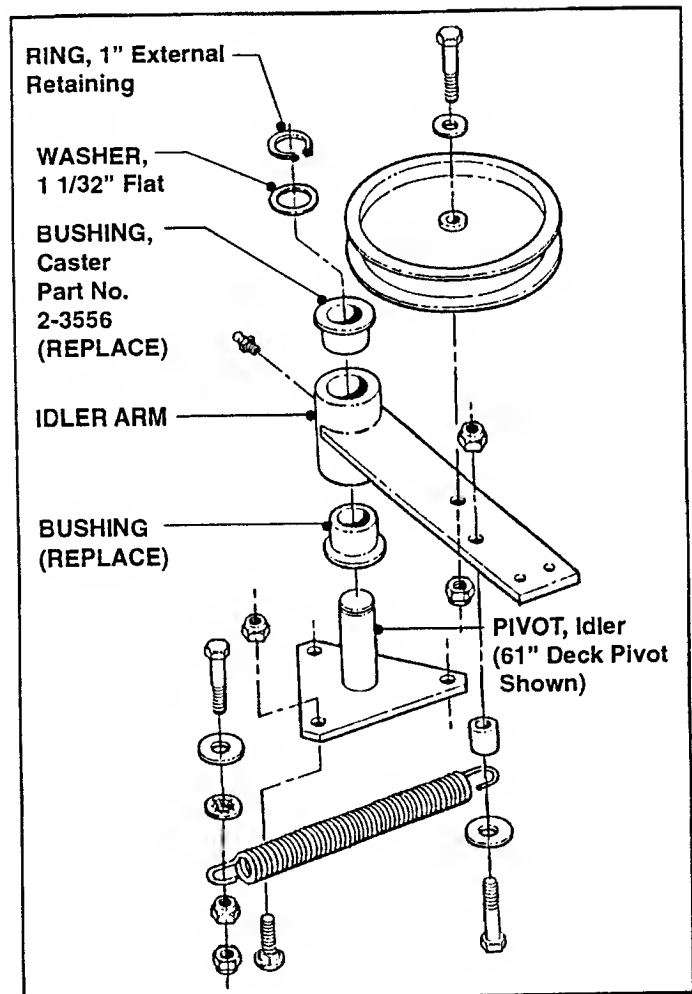

FIGURE 8.18
6. If the Idler Arm is still difficult to pivot, remove it from the Pivot and check the Bushings and Pivot Shaft for damage. See Figure 8.18. Replace parts as required.